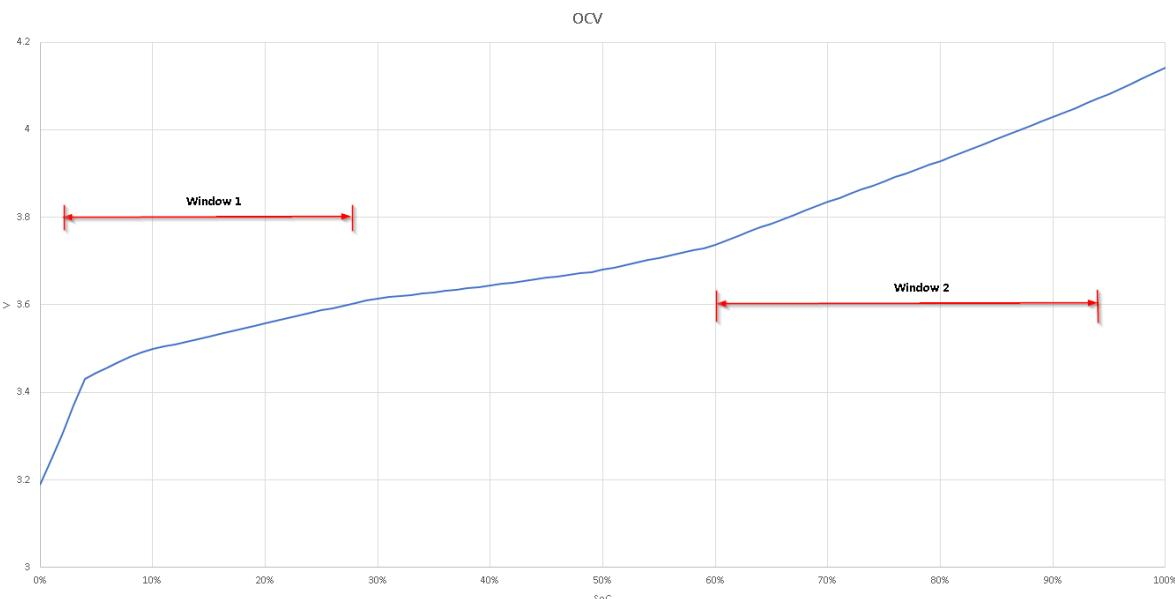

Figure 3.14: Example SoC(V) curve with windows where SoH calibration is allowed.
Because the SoH estimation depends heavily on the correctness of the OCV-SoC calibration, the confidence in the quality must be at a maximum to allow SoH calibration. This means that the maximum relaxation time of the cells (BMS off time) must be met. Also, because the OCV-SoC curve may contain sections where small errors in voltage causes large errors in SoC, two windows of the SoC(V) curve where Q_{full} calculation is allowed are specified as shown in Figure 3.14.